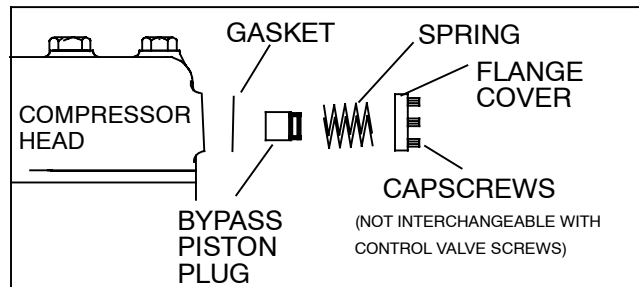

Figure 4-13. Removing Bypass Piston Plug
- g. Remove the three socket head capscrews from the cylinder head(s) that have unloader valves installed. See Figure 4-13. Remove the unloader valve and bypass piston assembly, keeping the same capscrews with the assembly. The original unloader valve must be transferred to the replacement compressor. The plug arrangement removed from the replacement is installed in the original compressor as a seal. If piston is stuck, it may be extracted by threading a socket head capscrew into top of piston. A small Teflon seat ring at the bottom of the bypass piston plug must be removed.